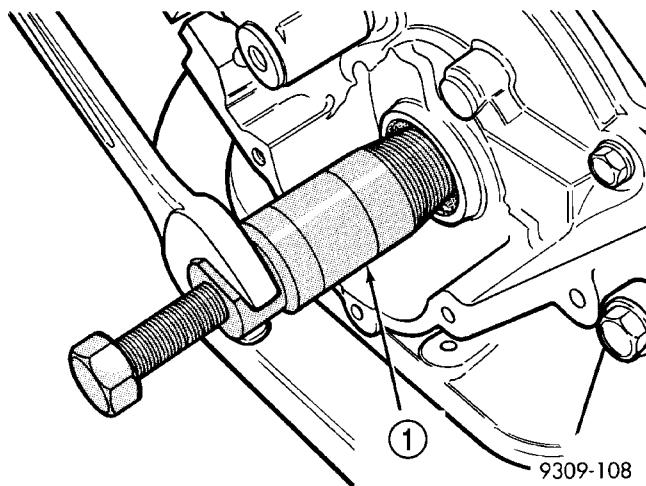

Fig. 73 REMOVING CRANKSHAFT OIL SEAL WITH SPECIAL TOOL
(3) Remove crankshaft seal using Special Tool 6341A (Fig. 73).